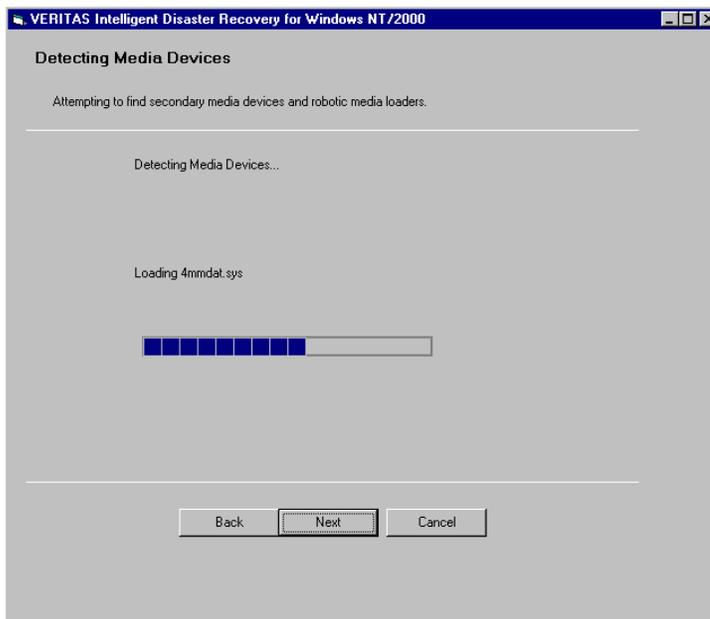

Figure 15: Detecting Media Devices progress screen
5. The next screen in the disaster recovery process is the Detecting Media Devices progress screen shown in Figure 15.